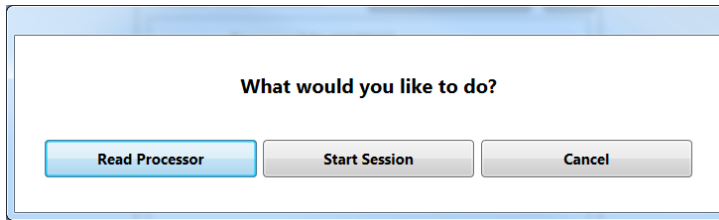

Figure 20: What would you like to do? pop-up window
- b. A pop-window will appear asking “What would you like to do?” Select “Start Session.” (Figure 20).